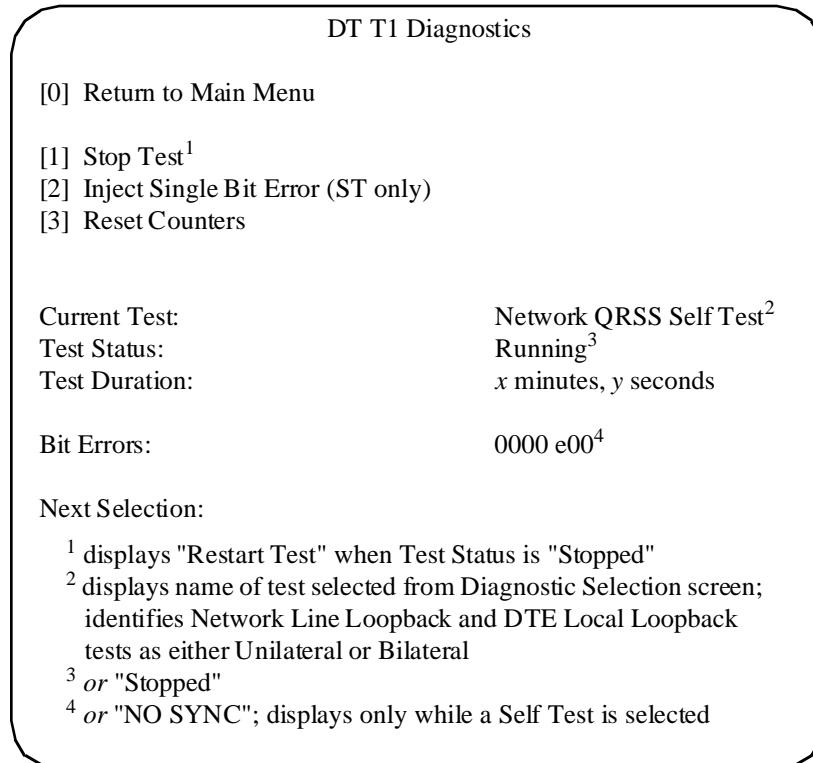

Figure 4-3 Diagnostics Results Screen
4. Type the selection number of the test you intend to perform. The DSU responds by initiating the test and displaying the DeskTop T1 Diagnostics results screen, as shown in *Figure 4-3*.